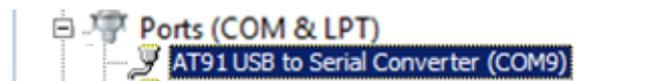

Figure 5-3
(4) If there is prompt in device manager in figure 5-3, it shows board driver has been installed.